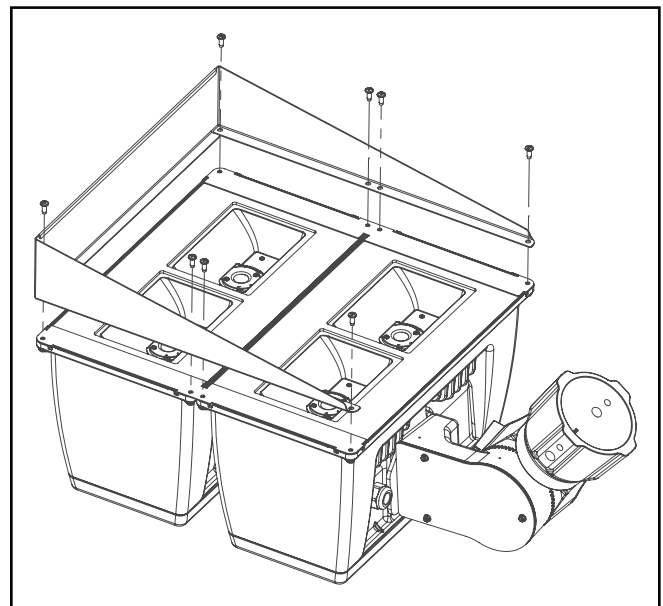

Figure 7.
Visor (Figure 7.)
1. Loosen and remove the existing (4) 10-24 Philips head screws on the face of the fixture and retain for future reference.
2. Align visor on top of lens clips matching the (4) existing holes. (Figure 7.)
3. Use the existing (4) 10-24 Philips head screws to secure visor.